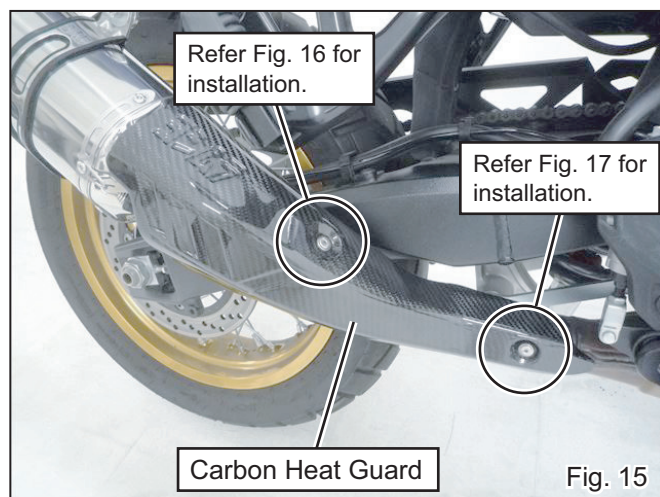

Fig. 15
- 14) Mount Heat Guard with Extra Low Head Cap Bolt M6x16, Stepped Spacer and Stepped Nut M6. Tighten and torque Extra Low Head Cap Bolt M8x16 (See Fig. 15, 16 & 17).